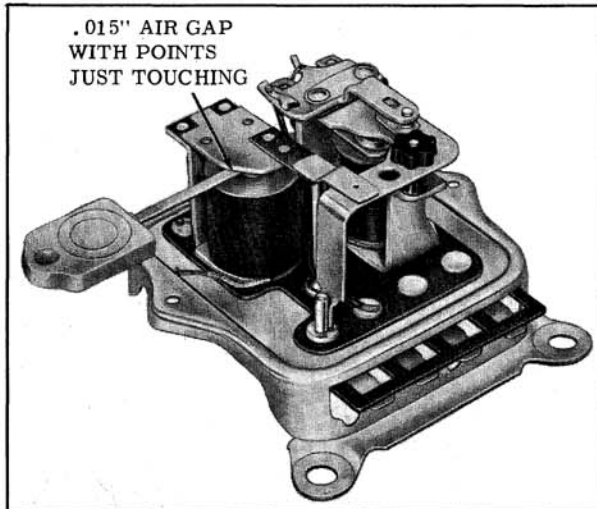

Fig. 13-21 Checking Field Relay Air Gap
3. Check clearance between the armature and core with the points just touching. Air gap should be .015". (Fig. 13-21)